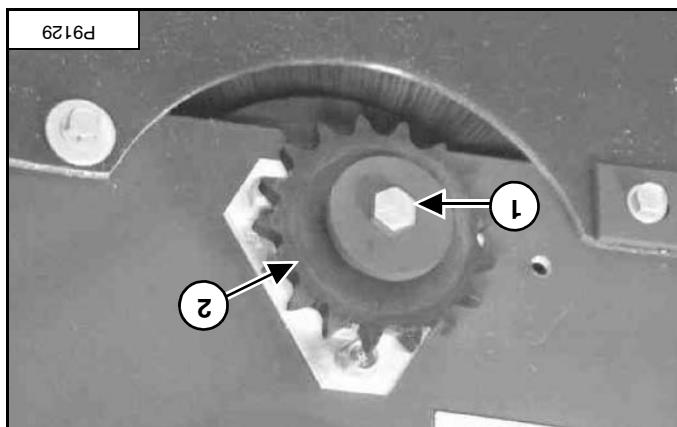

Figure 132
- Install the sprocket (item 1) [Figure 132] and washer on to the end of the broom shaft.